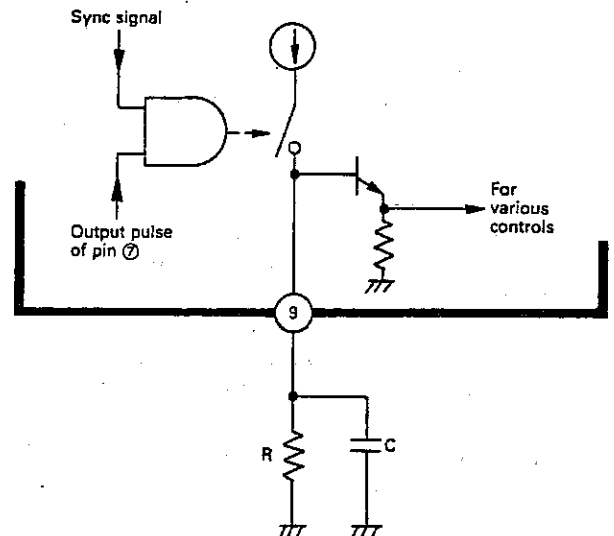
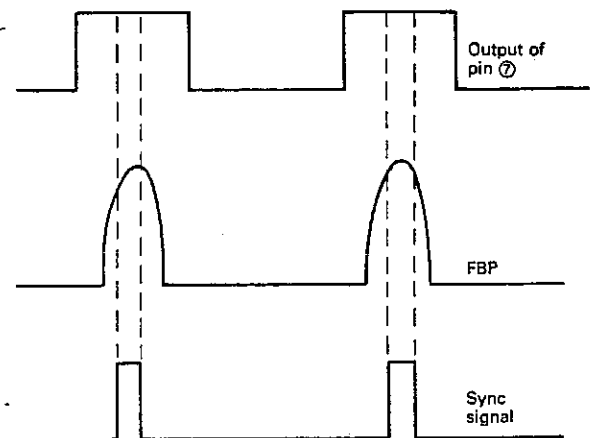

Figure 23-1.
Figure 23-2.
The output pulse of pin ⑦ of the horizontal oscillator circuit is applied to AND gate of the sync detector circuit while it is compared with the sync signal which is then available at that AND gate. As a result of AND operation, when both signals are found to occur in the same timing, the constant current is allowed to flow in the circuit. Then the current is transformed into a voltage by the resistor and capacitor in connection with pin ⑨, and the voltage is used for various controls in the IC801 (see Fig. 23-1). It is here noted that the output pulse of pin ⑦ is used instead of FBP to be compared with the sync pulse for their sync detection. Therefore, should there occur an unusual operation to make abnormal the timing relation among the output pulse of pin ⑦, FBP and sync signal, the sync detector circuit fails to show a normal operation. The ideal relationship among the three signals is shown in Fig. 23-2, and this is always assured as far as the unit is operated in the normal manner in usual conditions.